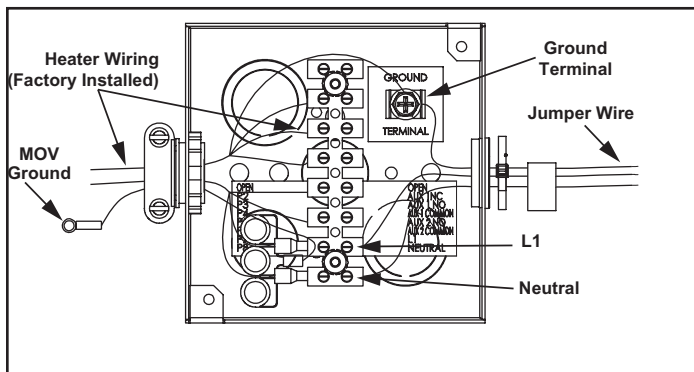

Figure 56. Electrical Wiring - Junction Box
The 120-VAC hot wire from the power supply must connect to the black jumper wire or the "L1" terminal block location in the junction box and the 120-VAC neutral wire must connect to the white jumper wire or the "Neutral" terminal block location in the junction box for correct polarity. See **Figure 56** (page 41).
3. Connect the 120-VAC hot wire from the power supply to the black jumper wire or the terminal block location marked "L1" inside of the junction box located on top of the water heater. If the black jumper wire is used, make the connection inside of the junction box with a properly-sized wire nut. Wrap electrical tape around the wire nut and wire end. See junction box **Figure 56** and the wiring diagram **Figure 67** (page 70).
4. Connect the 120-VAC neutral wire from the power supply to the white jumper wire or the terminal block location marked "Neutral" inside of the junction box located on top of the water heater. If the white jumper wire is used, make the connection inside of the junction box with a properly sized wire nut and wrap electrical tape around the wire nut and wire end. See junction box **Figure 56** and wiring diagram **Figure 67** (page 70).
5. Connect the ground wire from the power supply to the grounding lug inside the junction box. See the junction box in **Figure 56** and the wiring diagram **Figure 67** (page 70).